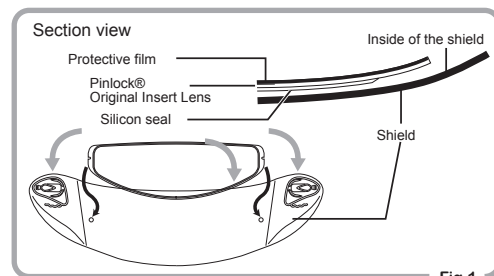

Fig.1
- ① Apply the silicon seal side of the Pinlock® Original Insert Lens on the inside of the shield, without peeling off the protective film on the lens. At the time, apply the Pinlock® Original Insert Lens on the inside of the shield by clicking it into the eccentric pins. (Fig 1 and 2)